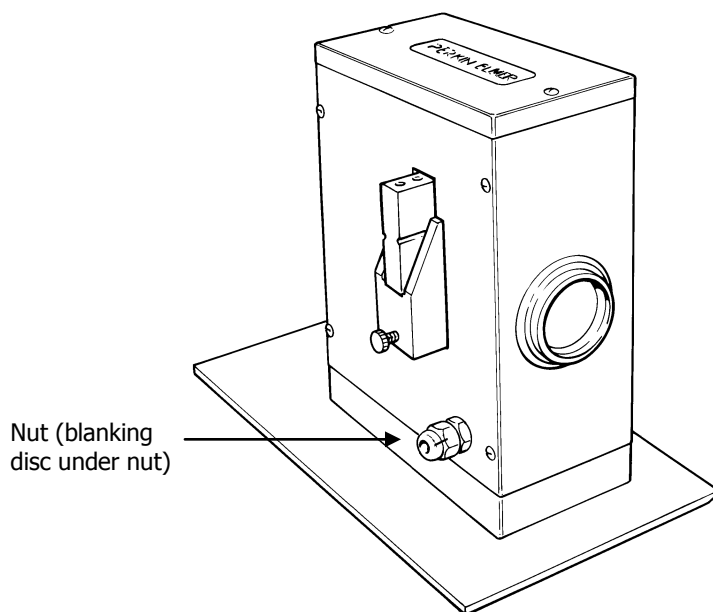

Figure 23 The purge inlet
1. Remove the nut on the Diffuse Reflectance Accessory and remove the blanking disc (Figure 23).